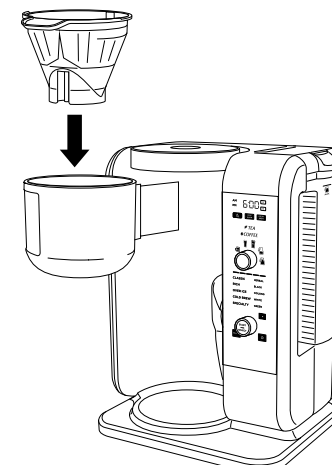

Fig. 5
- 2 Ensure one of the removable filter holders is nested inside the brew basket (**Fig. 5**). Once in place, slide the brew basket all the way in until you hear a slight click (**Fig. 6**).